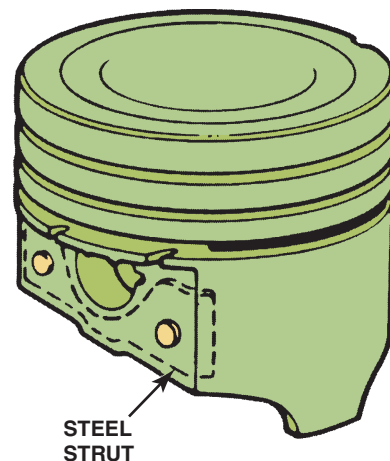

FIGURE 29-10 Steel struts cast inside the piston help control expansion and add strength to the piston pin area.
- Pistons with steel strut inserts allow good piston-to-cylinder wall clearance at normal temperatures. At the same time, they allow the cold operating clearance to be as small as 0.0005 inch (one-half thousandth of an inch) (0.0127 mm). This small clearance will prevent cold piston slap and noise. A typical piston expansion control strut is visible in ● **FIGURE 29-10**.